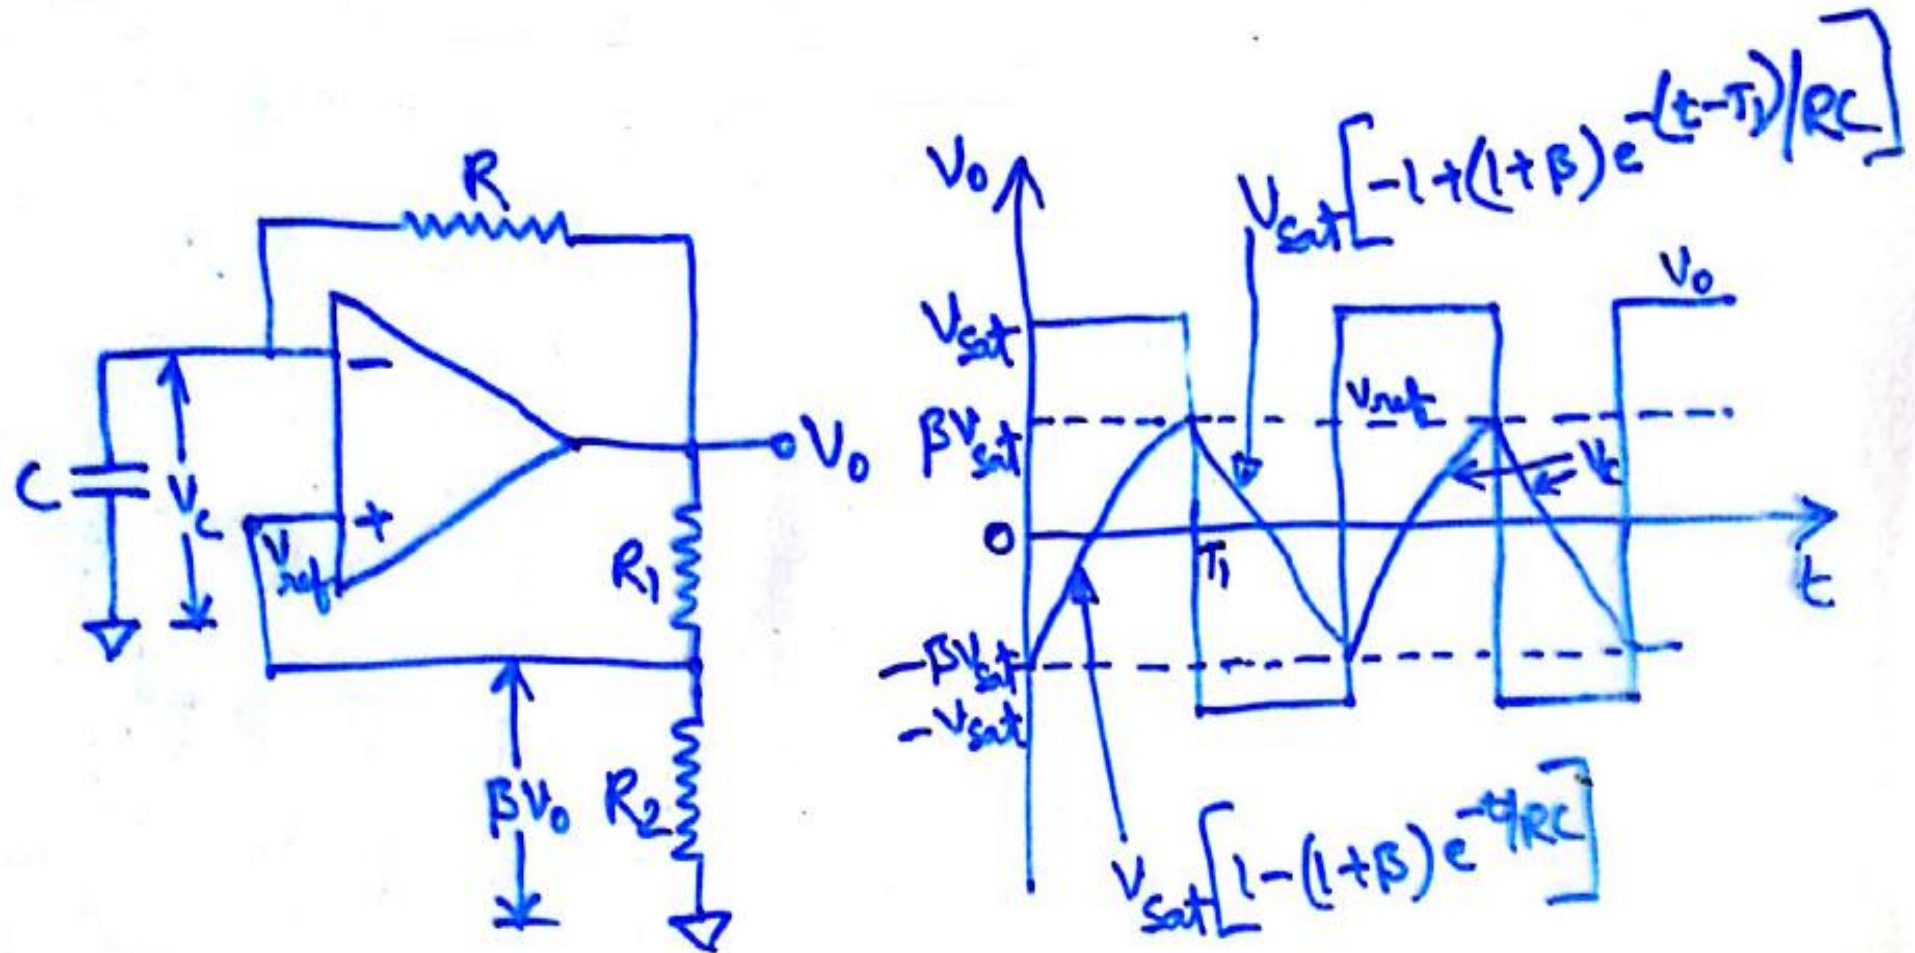

Fig 5.10(a) Simple op-amp square wave generator (b) waveforms.
- In Figure 5.10(a), fraction $\beta = R_2/(R_1+R_2)$ of the output is fed back to the +ve input terminal. Thus the reference voltage V_{ref} is βV_o and may take values as $+\beta V_{sat}$ or $-\beta V_{sat}$.